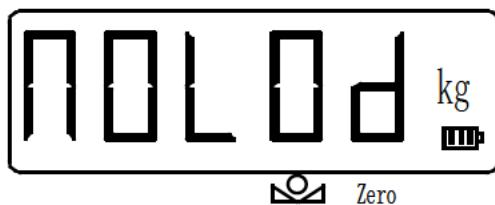
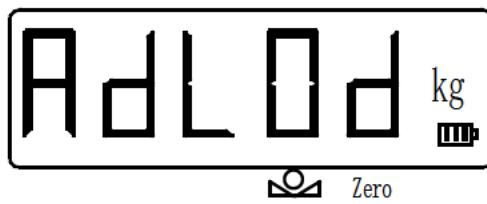

Fig. 8
Fig. 9
3. Calibrate 0: Press reset key . Display will show as in figure 8. Lift the forks to 130 mm height from the floor without load and then press reset key . Display will show as in figure 9.